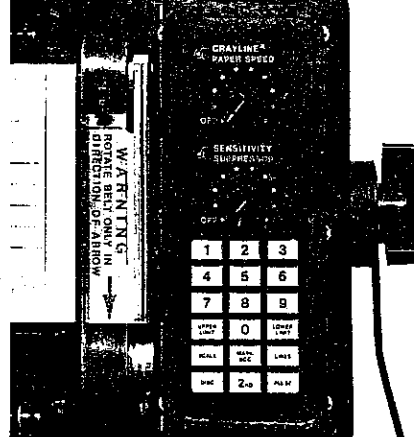

Figure 24
3. Move the stylus belt DOWN, to position the marking stylus on the back side of the platen. NEVER move the belt up — the stylus may be damaged. (See Figure 24.)